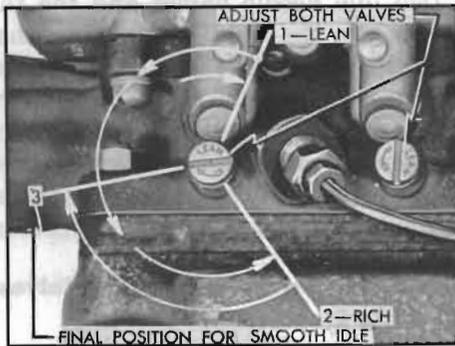

Figure 3-10—Adjustment of Idle Needle Valves
2. With engine at normal operating temperature and idling at 485 RPM in neutral or park, adjust one needle valve at a time (fig. 3-10) to provide smooth idle, as follows: